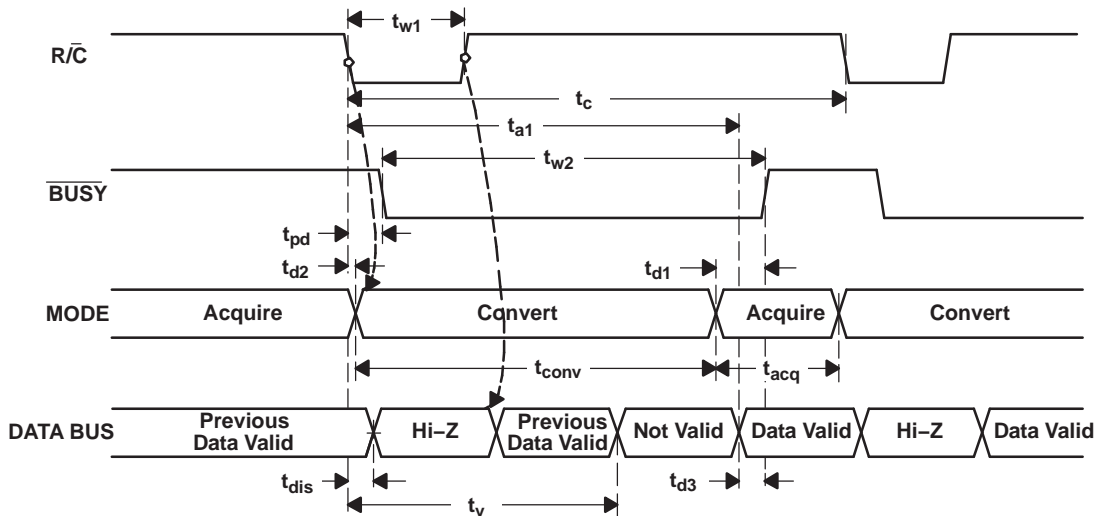
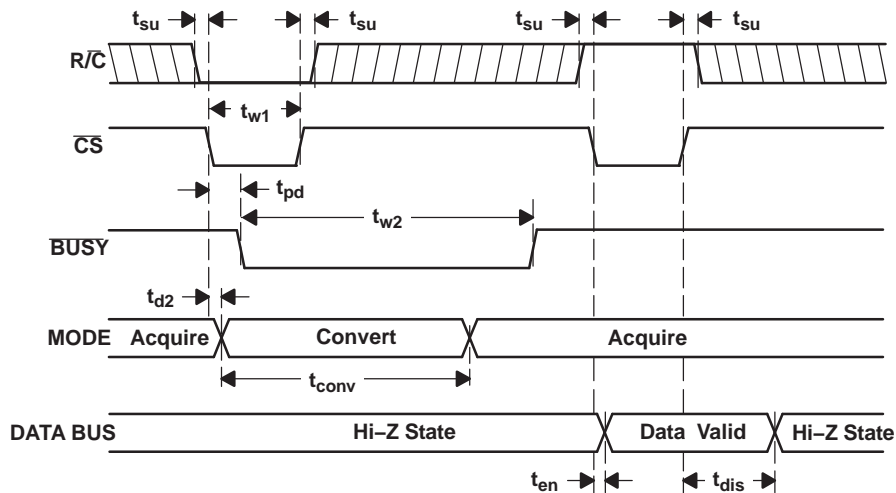
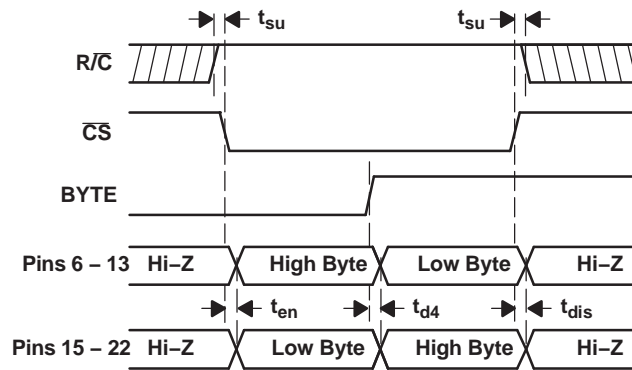

Figure 21. Conversion Timing with Outputs Enabled after Conversion (\overline{CS} Tied Low)
Figure 22. Using \overline{CS} to Control Conversion and Read Timing
Figure 23. Using \overline{CS} and BYTE to Control Data Bus
The ADS8515 begins tracking the input signal at the end of the conversion. Allowing 4 μs between convert commands assures accurate acquisition of a new signal. Refer to Table 1 for a summary of $\overline{\text{CS}}$, $\text{R}/\overline{\text{C}}$, and $\overline{\text{BUSY}}$ states and Figure 21, Figure 22, and Figure 23 for the timing diagrams.
(1) See Figure 21 and Figure 22 for constraints on data valid from conversion $n-1$.
After conversion n is completed and the output registers have been updated, \overline{BUSY} (pin 26) goes high. Valid data from conversion n is available on D15-D0 (pins 6-13 and 15-22). \overline{BUSY} going high can be used to latch the data. Refer to Table 3 and Figure 21, Figure 22, and Figure 23 for timing specifications.
After conversion n has been initiated, valid data from conversion -1 can be read and is valid up to t_2 after the start of conversion n . Do not attempt to read data from t_2 after the start of conversion n until \overline{BUSY} (pin 26) goes high; this may result in reading invalid data. Refer to Table 3 and Figure 21, Figure 22, and Figure 23 for timing specifications.
The number of control lines can be reduced by tying \overline{CS} low while using the falling edge of $\overline{R/\overline{C}}$ to initiate conversions and the rising edge of $\overline{R/\overline{C}}$ to activate the output mode of the converter. See Figure 21.